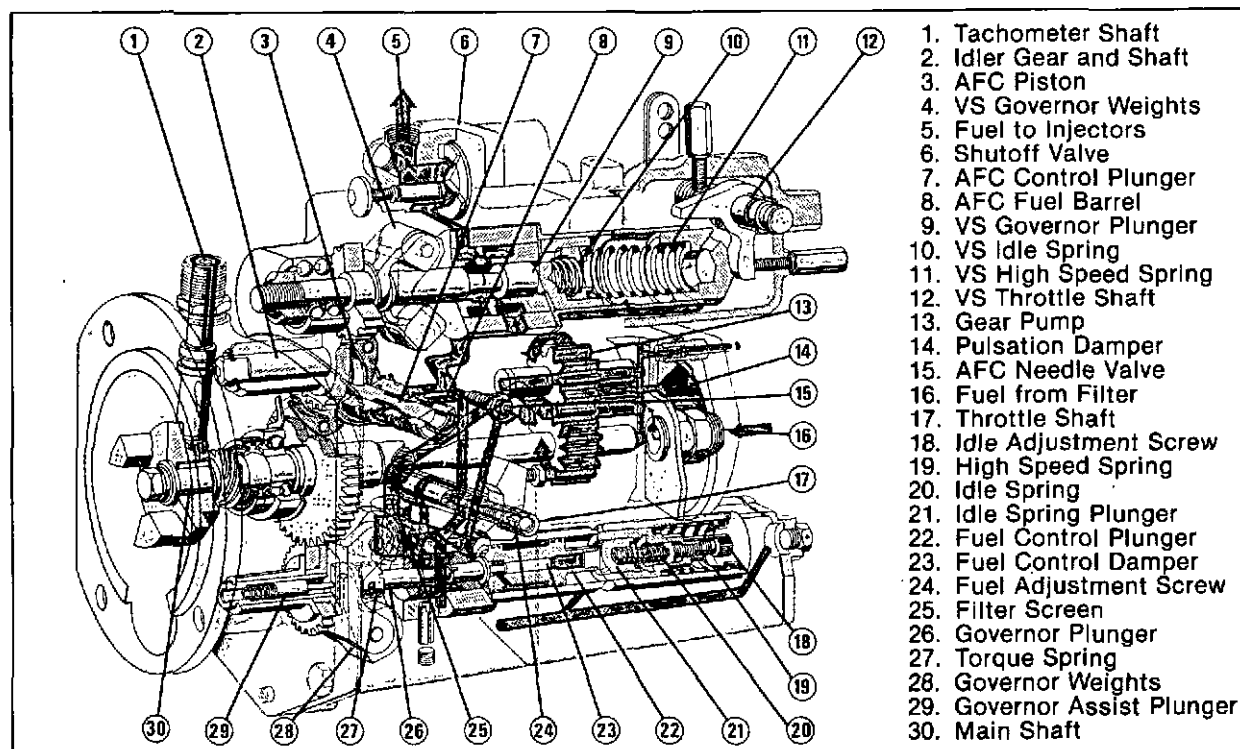

Fig. 10-37, (FWC-54). PT (type H) AFC-VS Fuel Pump.
1. When the pump has only one lever, it is on the upper governor, Fig. 10-37.